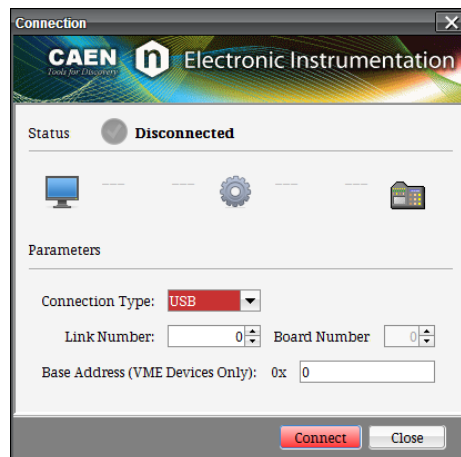

Fig. 7.5: Connection Window
- “**Connect**” button: opens the Connection window (Fig. 7.5).